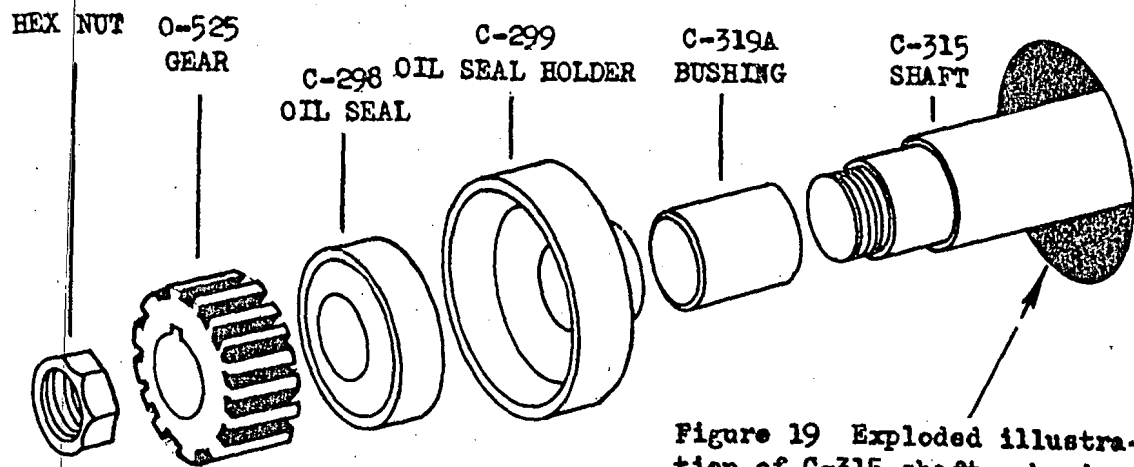

Figure 19 Exploded illustration of C-315 shaft, showing oil seal and holder.
23. Now remove the oil seal holder (part No. C-299) on end of shaft C-315 that comes through the inner gear guard just below the end of the lathe spindle. This oil seal holder is a small round piece of tubing approximately 1" in diameter with an oil seal (part No. C-298) inside. (See Figure 19). To remove hex nut on end of shaft, slide off gear and remove key and then pry the C-299 oil seal holder from the shaft C-315. See Figure 20.
13. Next slide OQ-100 quadrant assembly over end of sleeve OQ-16. See Figure 19. Look down through oil cup on top of quick-change gear box at lefthand side next to inner gear guard to make sure that the oil hole in the sleeve OQ-16 is lined up with the oil cup. If oil hole has been moved out of line, turn the OQ-16 sleeve until oil hole is in line with the oil cup.
20. Now put Woodruff key in the end of C-310-S back gear shaft, which projects through inner gear guard right in back of spindle. See Figure 19. Now slide C-286-S back gear on shaft, followed by washer C-340. Tighten hex nut on end of shaft until gear seats up against shoulder on C-310 shaft.